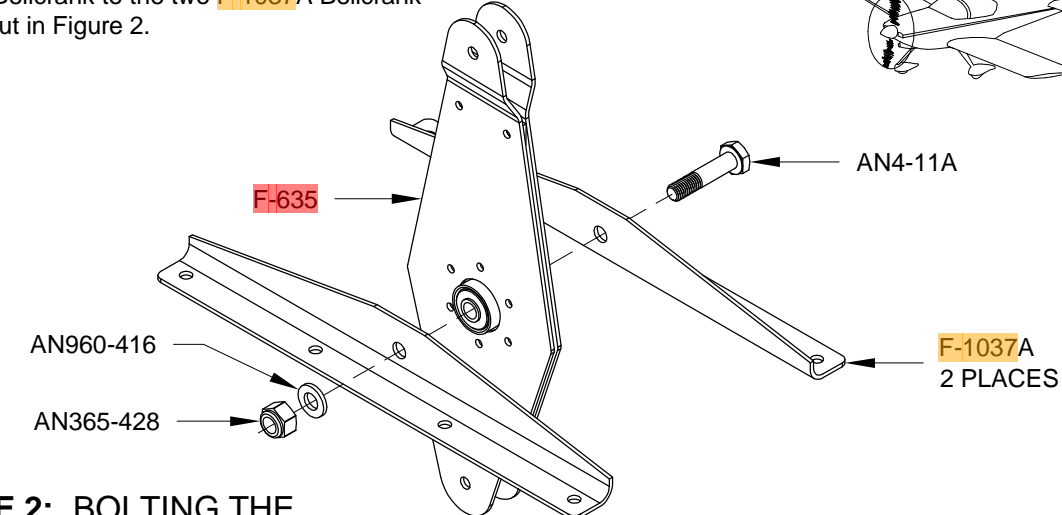

FIGURE 2: BOLTING THE ELEVATOR BELLCRANK
Step 3: Attach the F-635 Elevator Bellcrank to the two F-1037A Bellcrank Angles using the hardware called out in Figure 2.